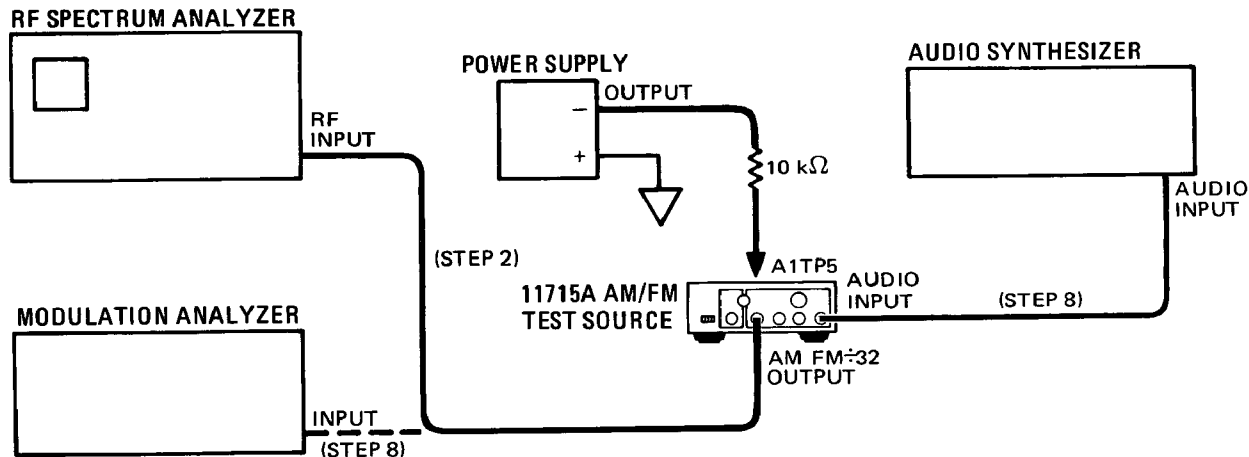

Figure 4-6. AM Distortion and Linearity and Incidental  $\phi$ M Test Setup
2. Connect the equipment as shown in Figure 4-6. Connect the negative output of the power supply to A1TP5 through the 10 k $\Omega$  resistor.
8. Connect the modulation analyzer and audio source to the AM/FM Test Source as shown in Figure 4-6.